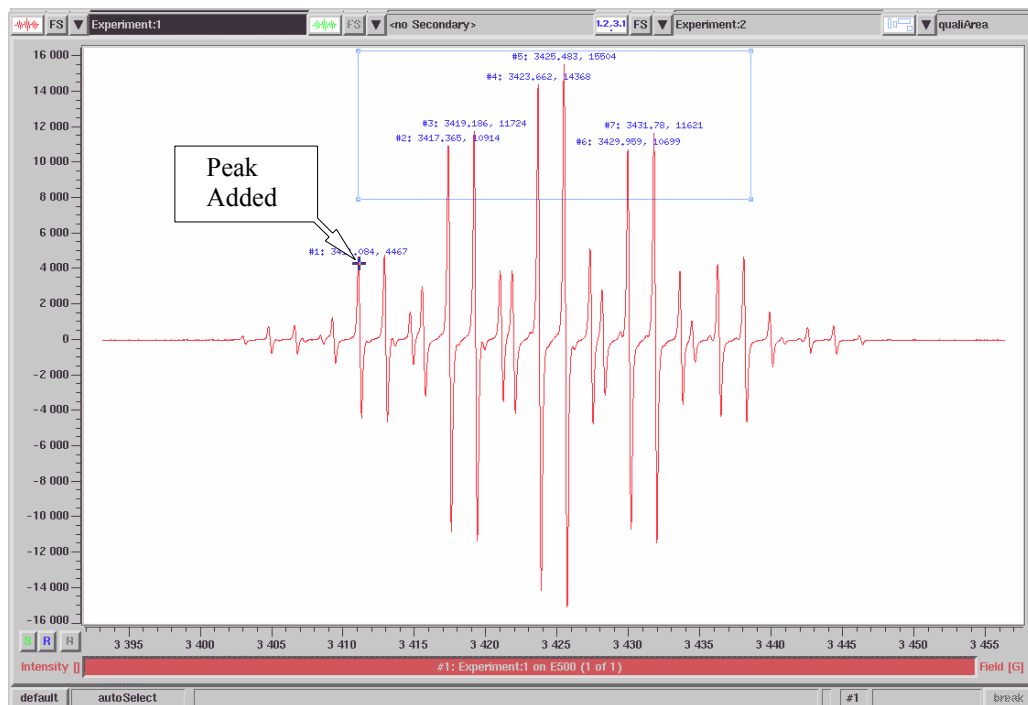

Figure 6-30 Adding a peak.
8. **Add and Remove Peaks.** When dealing with multiple species or noisy spectra, it is difficult to pick only the peaks you want by adjusting the resolutions or qualifier area. **Add and Remove Peak** allow you to add the peaks that the program missed or remove the unwanted peaks. Click **Add Peak** (or **Remove Peak**) in the **Peak Picking** menu. Move the mouse pointer to where the peak is and click the left mouse button. The peak will be added (or removed). (See Figure 6-30.)